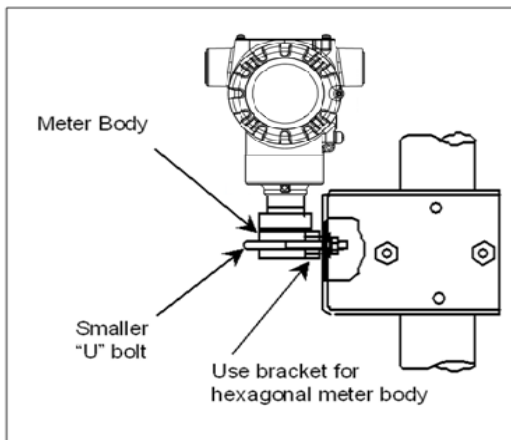

Figure 3: LGP and LAP models
- Existing mounting bracket, see Figure 3
In-line GP and AP (LGP model) or GP/AP Remote Seal	Use smaller "U" bolt provided to attach meter body to bracket. See Figure 3 .